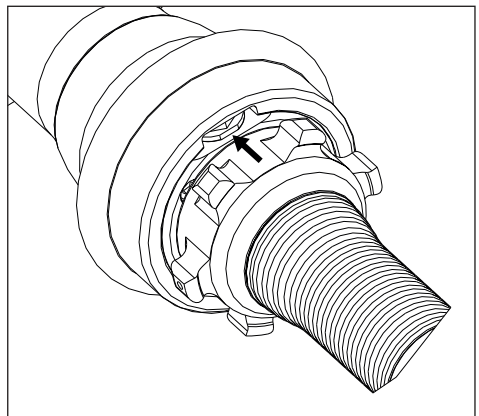

Figure 5, Neutral Position
- To stop blade movement: Release the knob at any time. The knob will automatically return to the neutral position. See Figure 5.